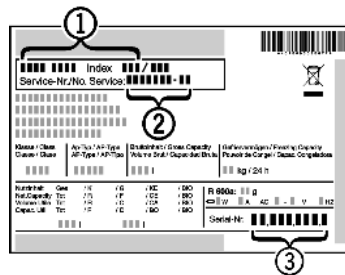

Fig. 10
- Read the appliance designation *Fig. 10 (1)*, service No. *Fig. 10 (2)* and serial No. *Fig. 10 (3)* off the type plate located inside the appliance on the left-hand side.
- Notify the customer service, specifying the fault, appliance designation *Fig. 10 (1)*, service No. *Fig. 10 (2)* and serial No. *Fig. 10 (3)*.